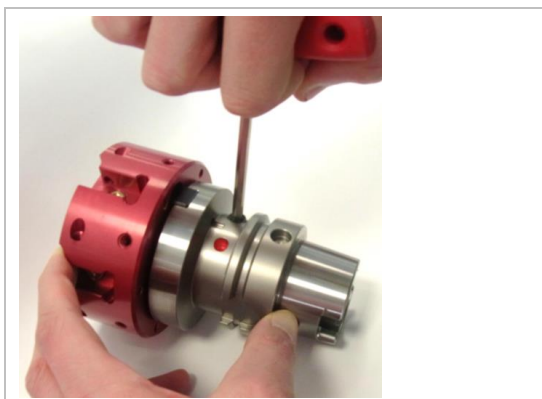

Figure 7: Removing centering screw
2. Undo the centering screw with **3 to 7 turns** counter-clockwise with the aid of the suitable hex wrench with T-key (see "Figure 7: Removing centering screw").